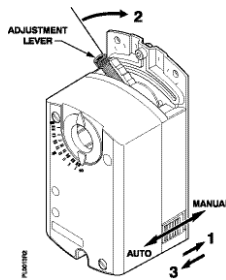

Figure 9. Manual Override.
2. If the blades will rotate counterclockwise, slide the manual override switch to manual, and move the adjustment lever to the right. Return the switch to automatic. See Figure 9.